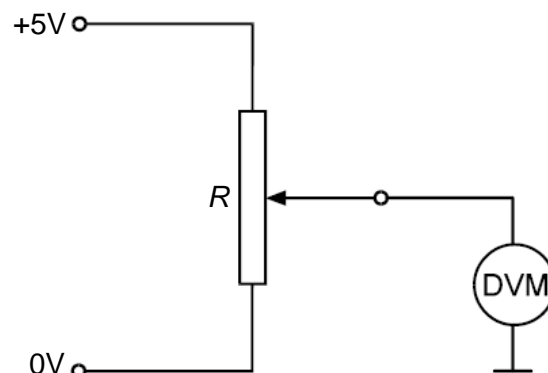

Figure B2. Linear potentiometer with bipolar supply
4. An alternative supply to the potentiometer is from a bipolar supply, as shown in Figure B2. Use the patching leads to connect the equipment as shown in Figure B2.
5. Repeat the previous procedure to move the Linear Assembly from the right to the left and record corresponding values of displacement and meter reading to complete Table B1 (linear potentiometer with bipolar supply column Figure B2).